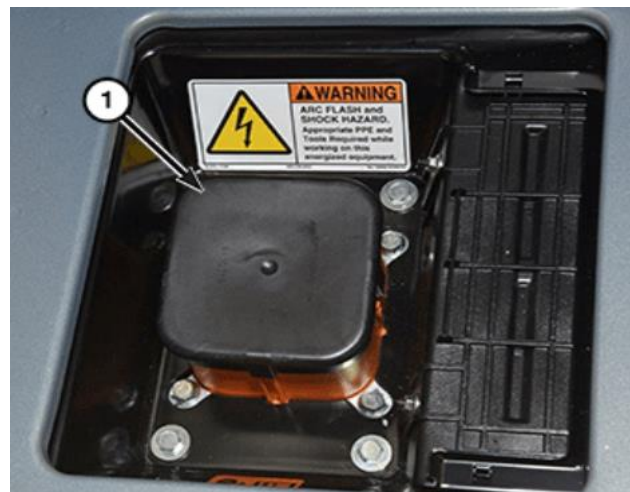

Figure 10 – MSD Cover
13. Cap the receptacle on the high-voltage battery with the Covers, HEV Battery Terminal 2035100082 (1) to prevent foreign objects from entering (Figure 10).